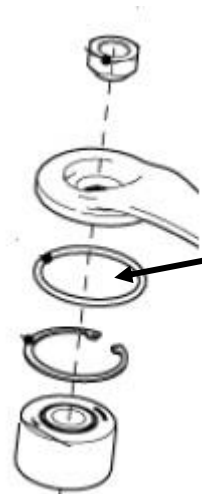

Figure 145
9. Install the bell cranks on the drive paddle. Insert the bolts from under the cutter bar and install the stabilizer bar with an O-ring between the top of the bearing and stabilizer. Figure 145 Use grease to hold the O-ring in place. Put the nuts on the bolts finger tight to hold in place. Figure 146